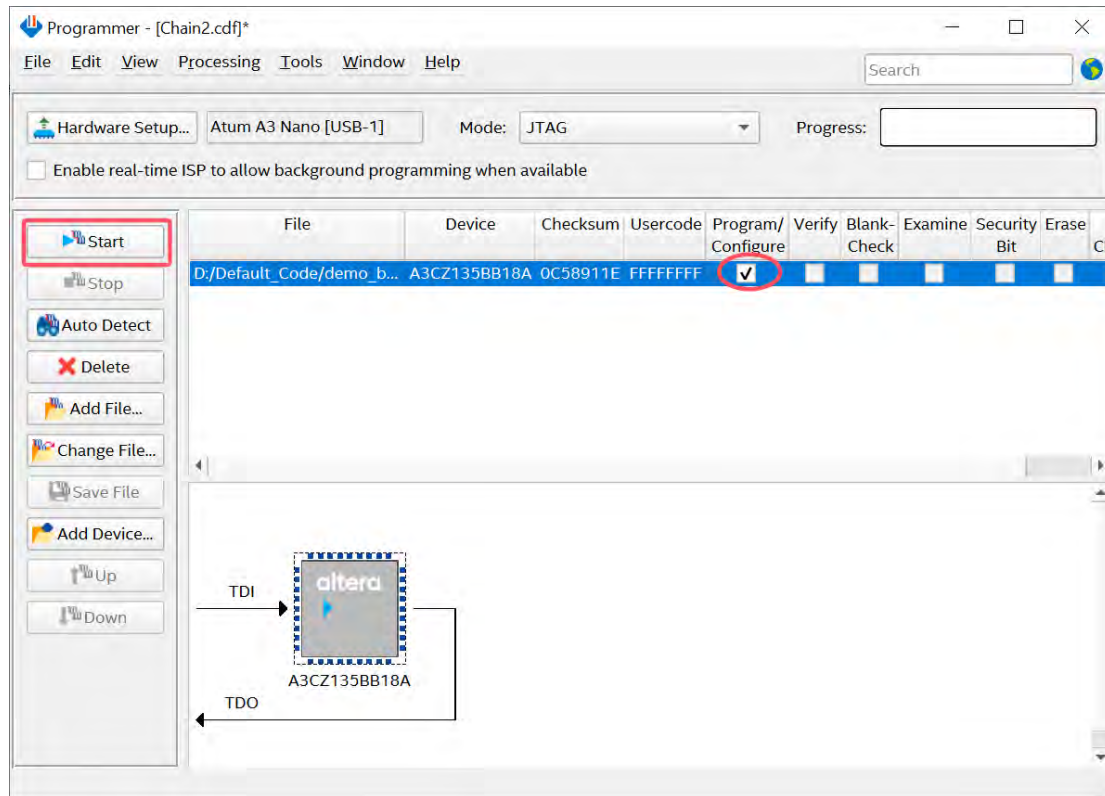

Figure 4-8 Download .sof file
9. Click “Program/Configure” check box, and then click “Start” button to download .sof file into FPGA, as shown in **Figure 4-8**.